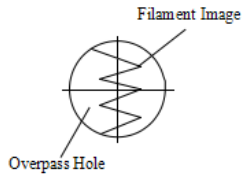

Figure 8
- c) This paper will allow for focusing of the lamp filament on it. If the filament image is not centered in the overpass hole, reduce the aperture diaphragm, loosen the screw , remove the cover and adjust the lamp centering screw obtain a uniform image. Adjust the focusing lens lever until a sharp image of the lamp filament is attained, refer to figure 8 for this step.
2. Loose the screw and remove the cover, see figure 8.